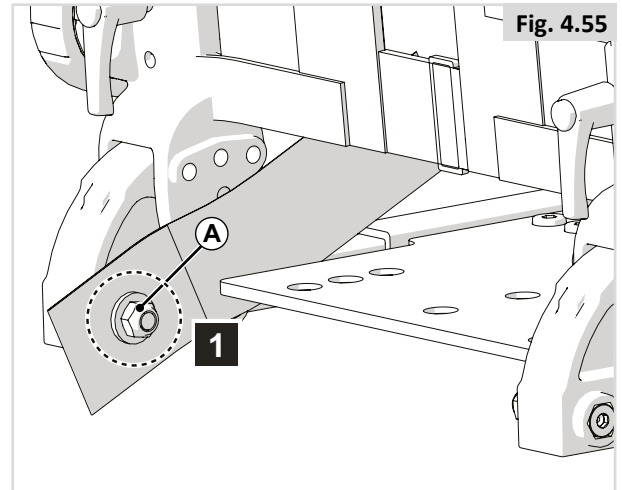

Fig. 4.55
1. Attach (A) to the seating frame using a screw on the left and on the right. (Fig 4.55)